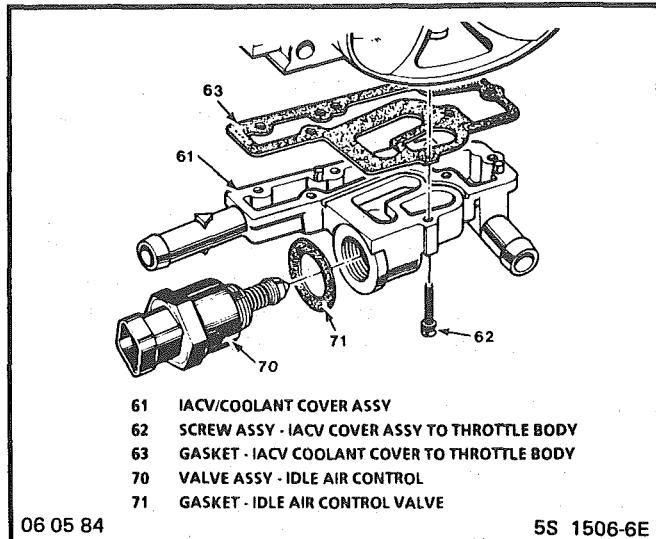

Figure C2-19 Idle Air Control/Coolant Cover Assembly
**IDLE AIR CONTROL/COOLANT COVER ASSEMBLY (Figure C2-19)